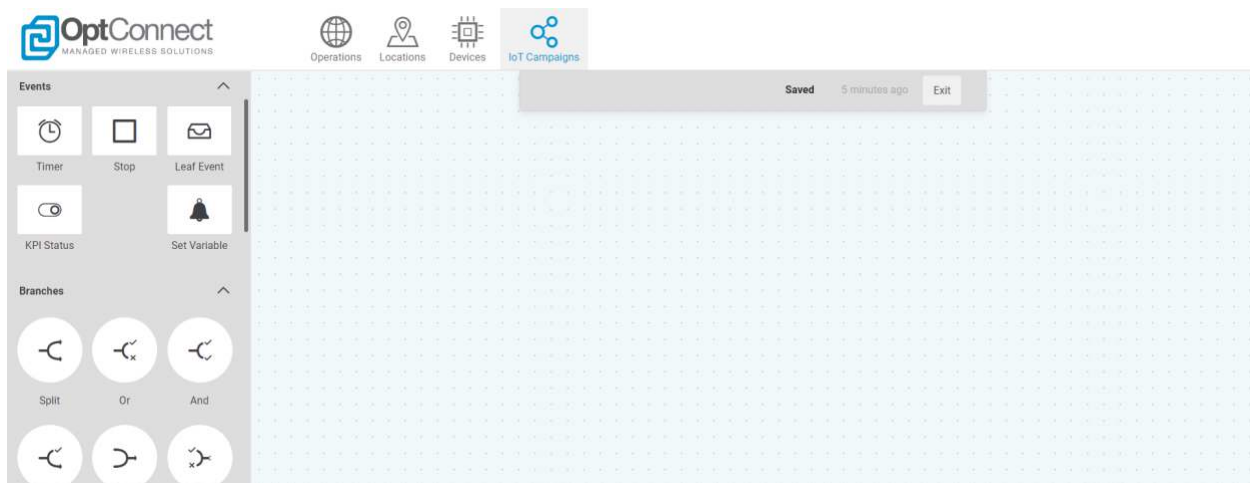

Figure 47
- The IoT Campaign canvas page will load and should look similar to *Figure 47*. The canvas is where the logic for the **Intruder – Flash Light Detected** IoT Campaign can be designed. The left side of the screen includes the modules that can be dragged onto the canvas and interconnected with other modules.